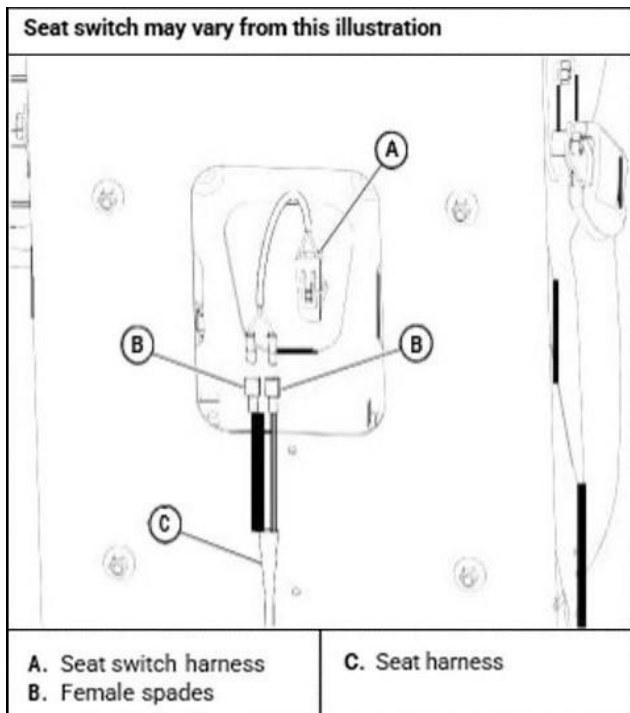

Figure 14
- Bypass the seat switch by connecting the two female spade connectors together. [Figure 14]